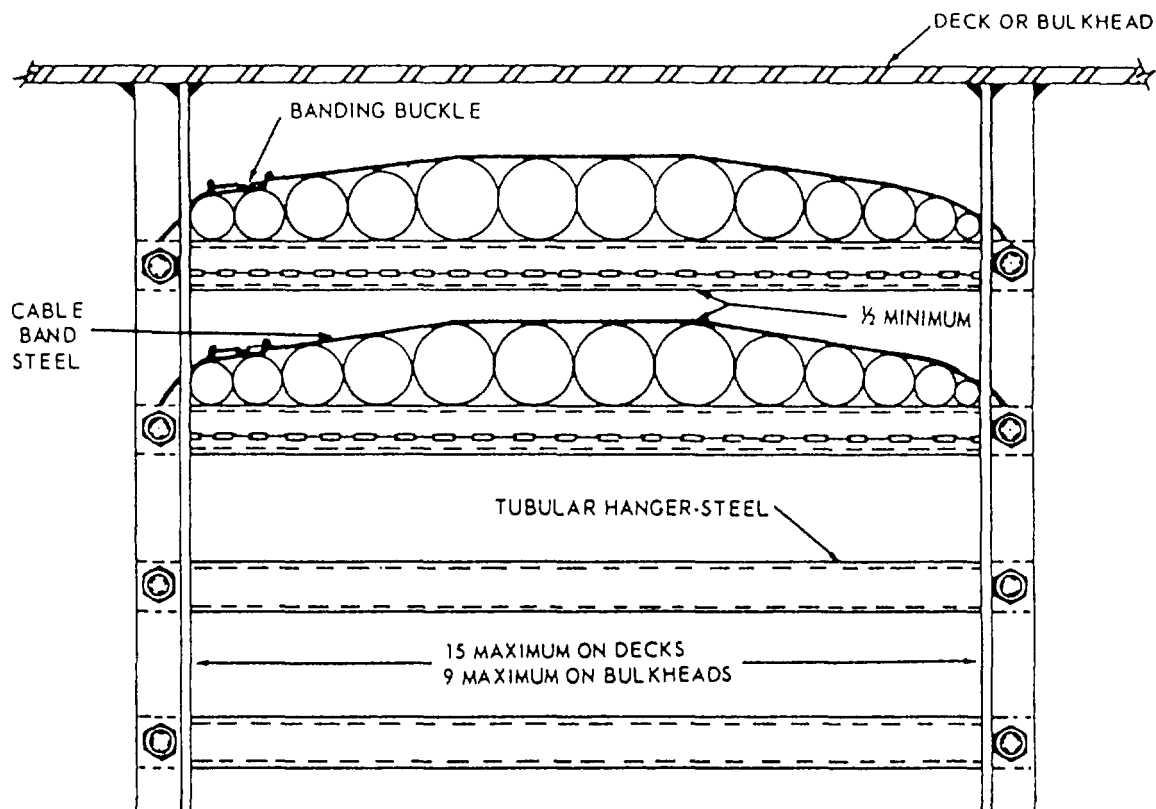

Figure 2-45.-Cables installed in a cable rack.
**CABLE RACK.**— A more complex cable support is the cable rack, which consists of the cable hanger, cable strap, and hanger support (fig. 2-45).